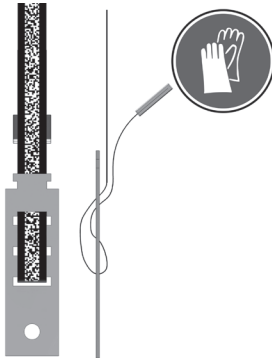

Figure 29: Bottom tension lock threading
2. Thread the code tape into the bottom tension lock (Figure 29).